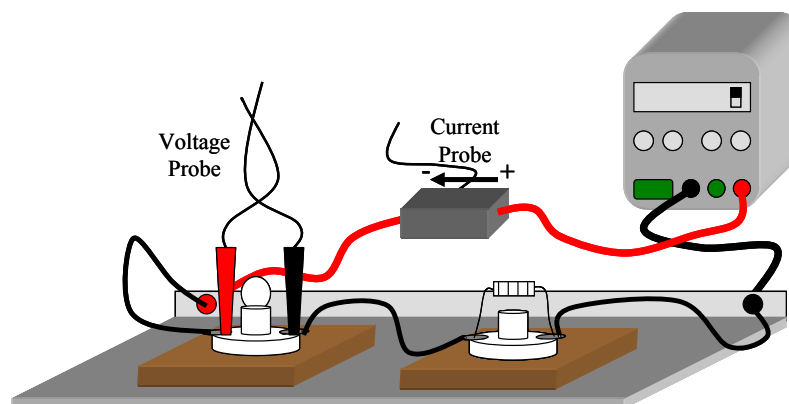

Figure 7: Circuit for measuring i - V curve of the bulb
- Assemble the circuit shown in Figure 7. Make sure the current probe is connected with the correct polarity. You are now ready to investigate the resistive characteristics of the bulb.